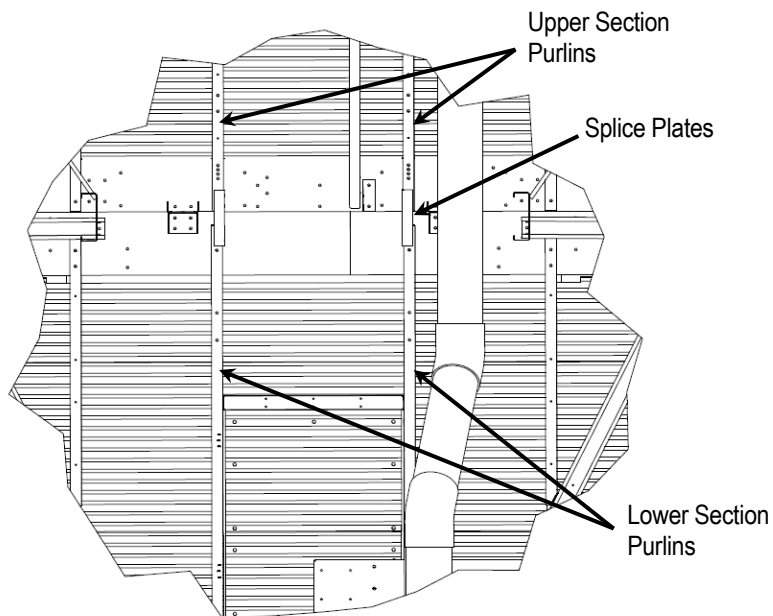

Figure 20. Internal Splice Plate Installation
14. Install four (4) internal splice plates connecting upper section and lower section purlins, as shown in **Figure 20**. Use 1/2" Grade 5 hardware.